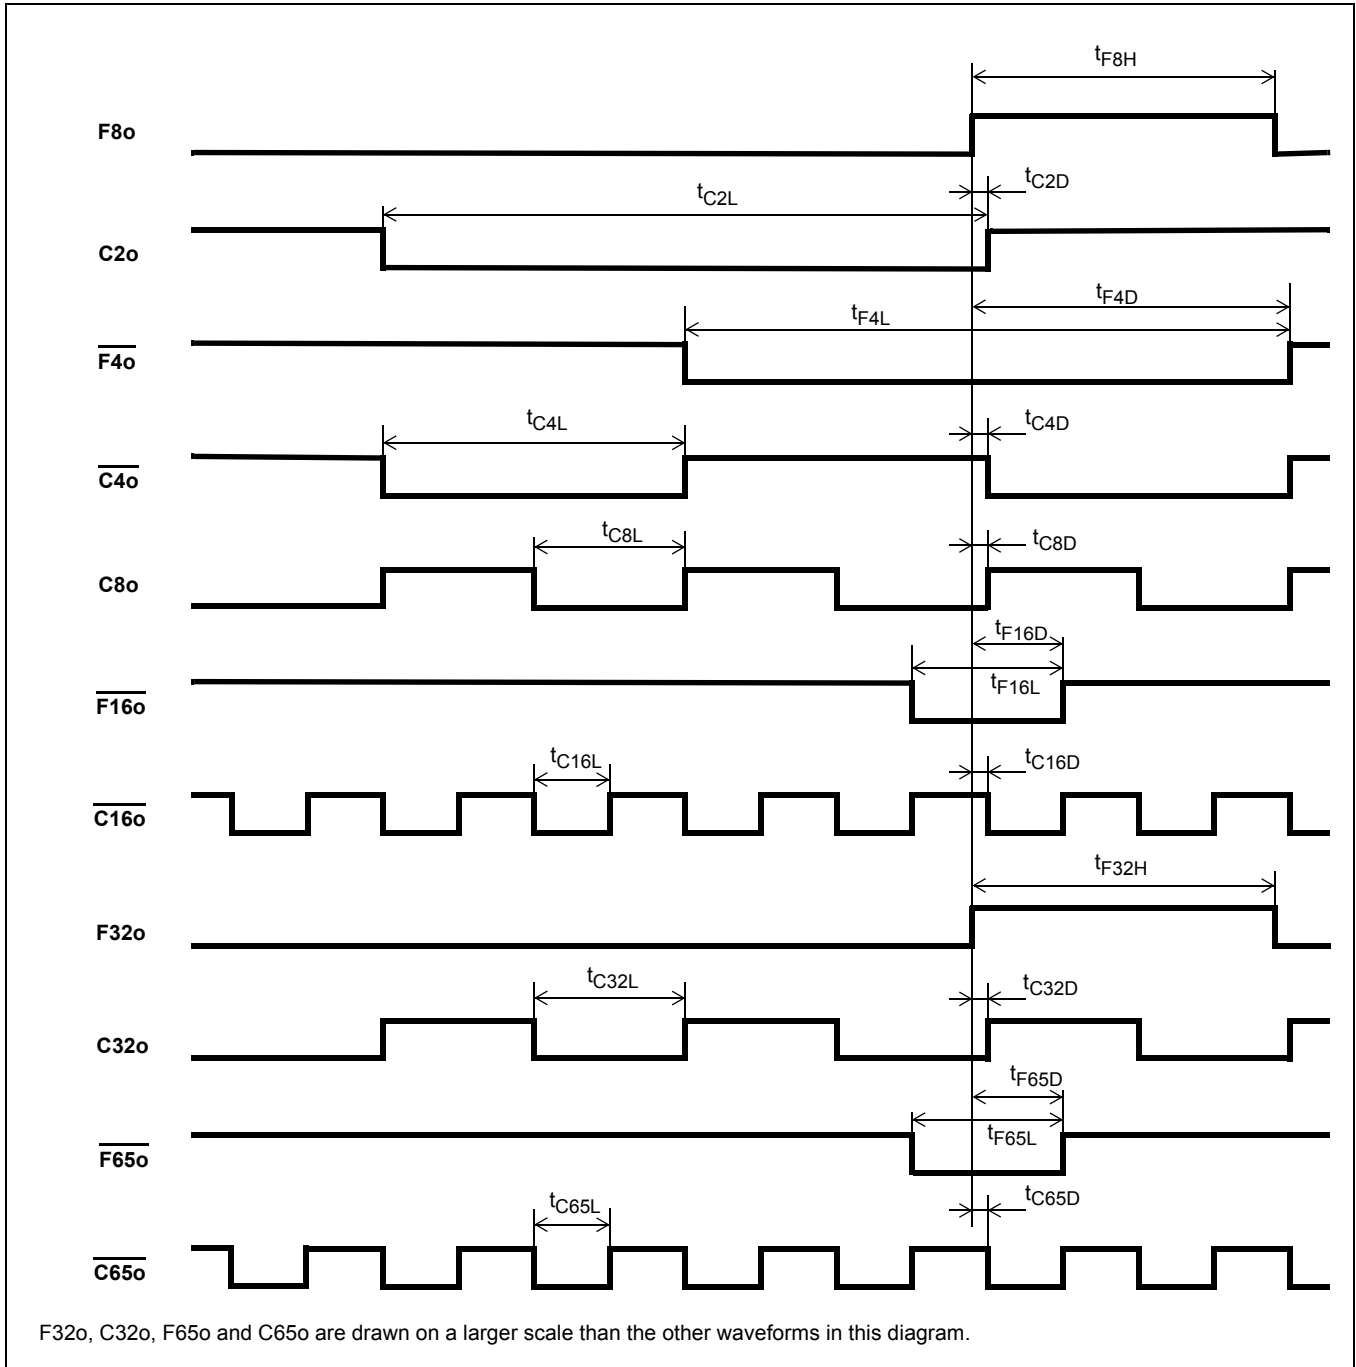

Figure 26 - E1 Output Timing Referenced to F8/F32o
**AC Electrical Characteristics\* - E1 output timing (see Figure 26).**